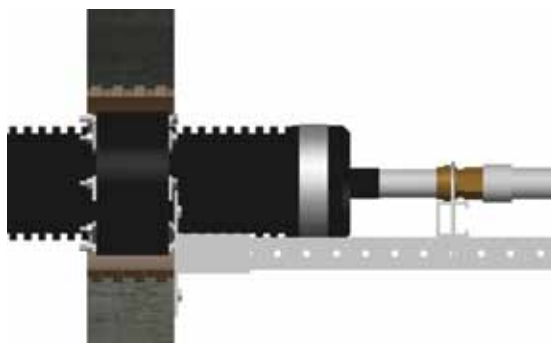

Figure 7: Wall Sleeve, Pressure Waterproof up to 7.0 psi (0.5 bar)
- Compression Wall Seal (See **Figure 7**)